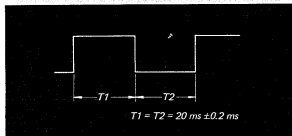

Fig. 7-5.
2. Adjust R437 so that T1 and T2 are 20 msec  $\pm 0.2$  msec (50% duty cycle) as shown in Fig. 7-5.